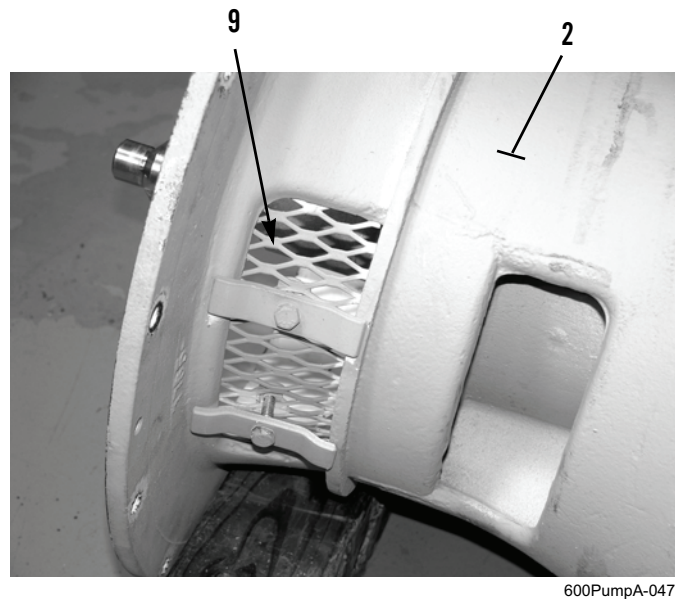
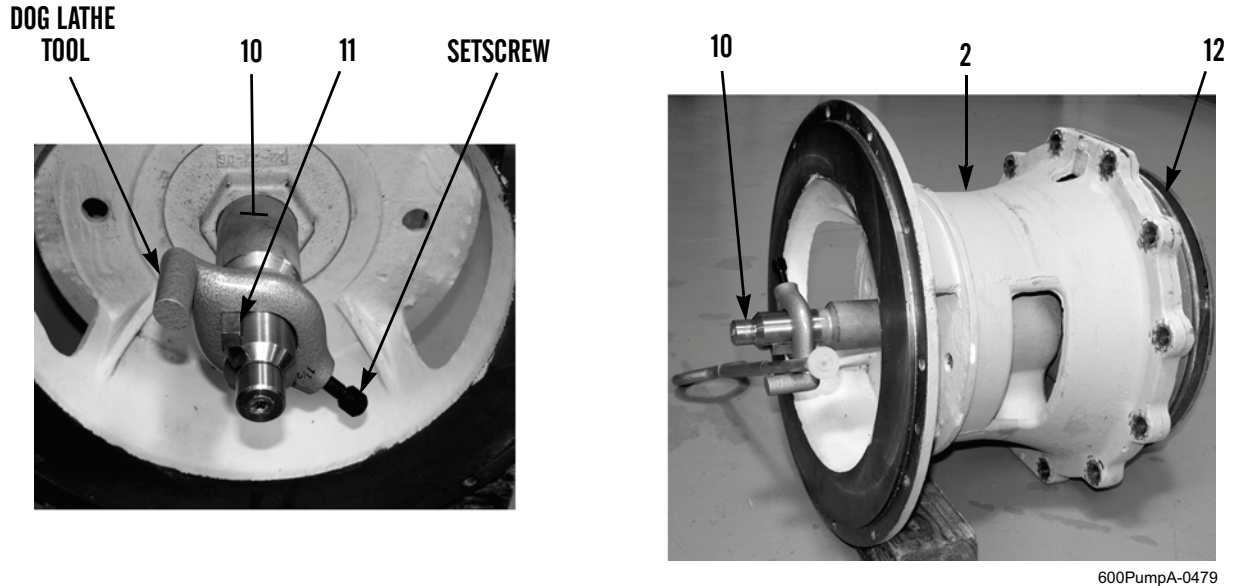

Figure 3. Intermediate Housing Guard.
Figure 4. Removing Impeller.
5. Place intermediate housing (Figure 3, Item 2) on its side and remove two guards (Figure 3, Item 9).
6. Remove impeller (Figure 4, Item 12) from impeller shaft (Figure 4, Item 10).
- Install impeller shaft key (Figure 4, Item 11) on edge, as shown, in keyway on drive end of impeller shaft (Figure 4, Item 10).
- Install dog lathe tool on impeller shaft (Figure 4, Item 10) and tighten setscrew on tool.
- Insert a brass rod through impeller (Figure 4, Item 12) to prevent impeller from rotating.
- While blocking impeller (Figure 4, Item 12), use dog lathe tool to turn impeller shaft (Figure 4, Item 10) in a counter-clockwise direction (left when facing drive end of impeller shaft).
- When impeller (Figure 4, Item 12) breaks loose, remove dog lathe tool, impeller shaft key (Figure 4, Item 11), and brass rod.
- Remove impeller (Figure 4, Item 12) from impeller shaft (Figure 4, Item 10).
7. Place intermediate housing (Figure 3, Item 2) in upright position with impeller (Figure 4, Item 12) end up.